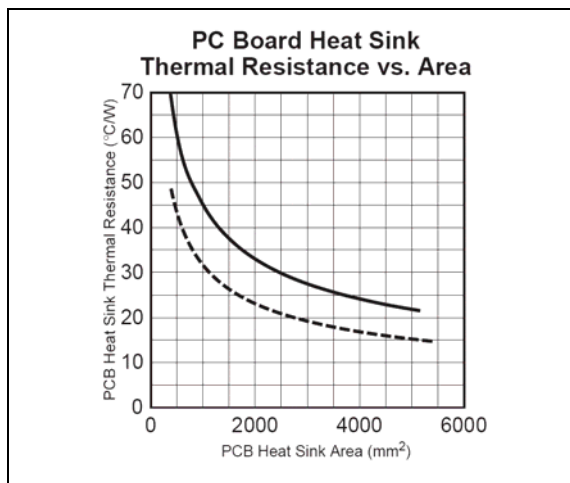

FIGURE 4-3: Excerpt from the LDO Book.
- $R_{\theta_{CA}} = 53^{\circ}\text{C}/\text{W}$ (as read from Figure 4-3)